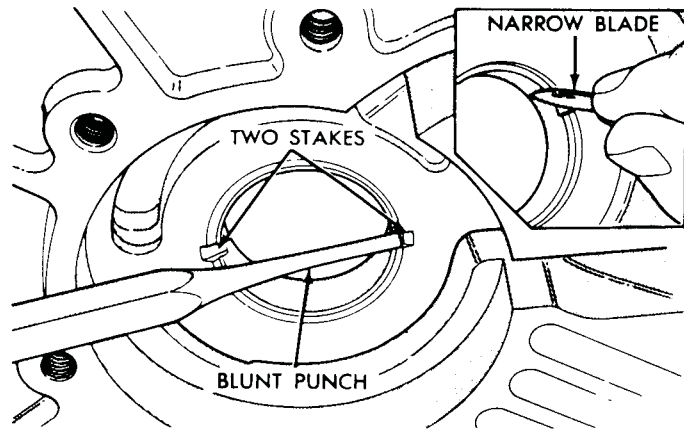

Fig. 10—Stake Pump Bushing
- (1) Place pump housing (seal face down) on a smooth, firm surface.
- (2) Place removing head, Tool SP-3551 in bushing and install handle Tool C-4171 in the removing head (Fig. 10).
- (3) Drive bushing straight down and out of pump housing bore. Be careful not to cock tool in the bore.
- (4) Position new bushing on installing head Tool SP-5117.
- (5) With pump housing on a smooth, clean surface, start bushing and installing head in the bushing bore. Install handle in the installing head (Fig. 10).
- (6) Drive bushing into housing until tool bottoms in the pump cavity. Be careful not to cock tool during installation.
- (7) Stake bushing in place by using a blunt punch or similar tool (Fig. 10). A gentle tap at each stake slot location will suffice.
- (8) Using a narrow-bladed knife, or similar tool, remove high points or burrs around staked area
(Fig. 10). Do not use a file or similar tool that will remove more metal than is necessary.